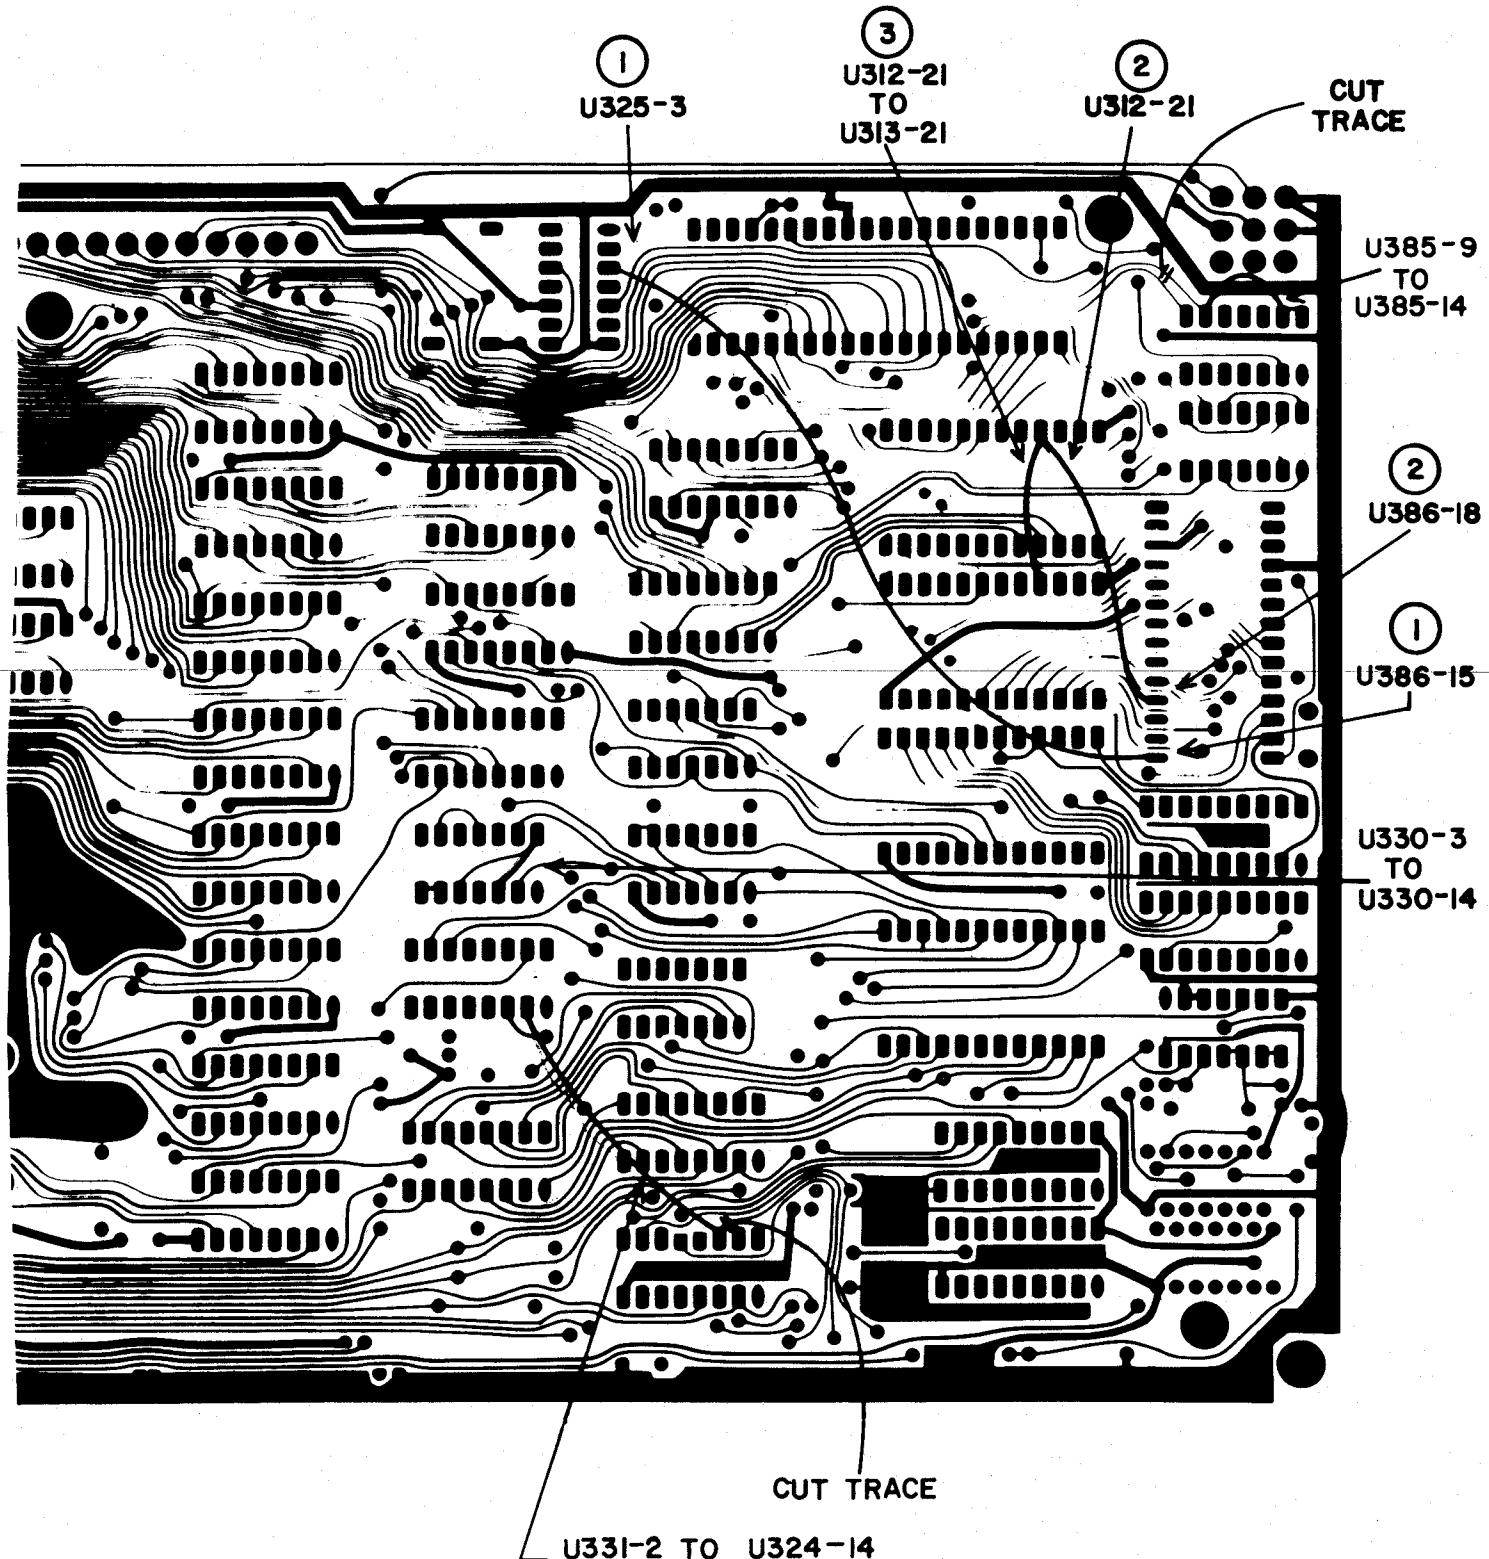

Figure 841-3
4. Where shown in Figure 841-3 (X), cut the following traces on the back:
- (A) U330-2 -INT to U385-9.
- (B) U324-14 to TP306.